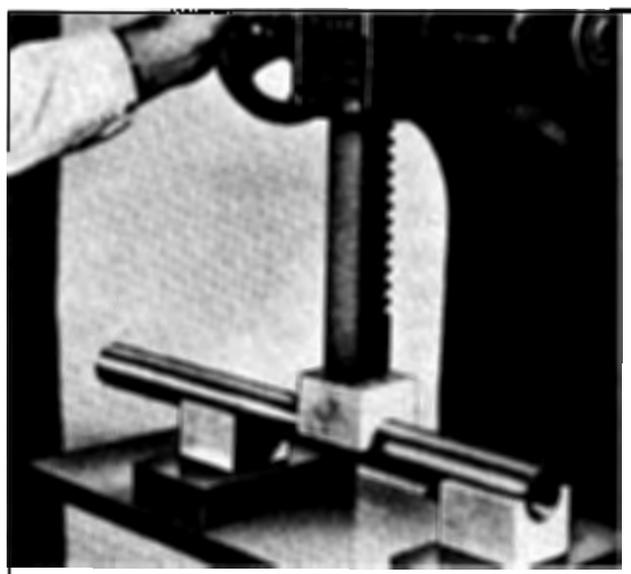

Figure 2-27. Pressing High Point
2. Find the highest point out of round with a dial indicator (Figure 2-26) and mark with chalk. Press high point as shown in Figure 2-27. Repeat indicating and pressing operations until tube is within .003 in. to .004 in. of being straight.